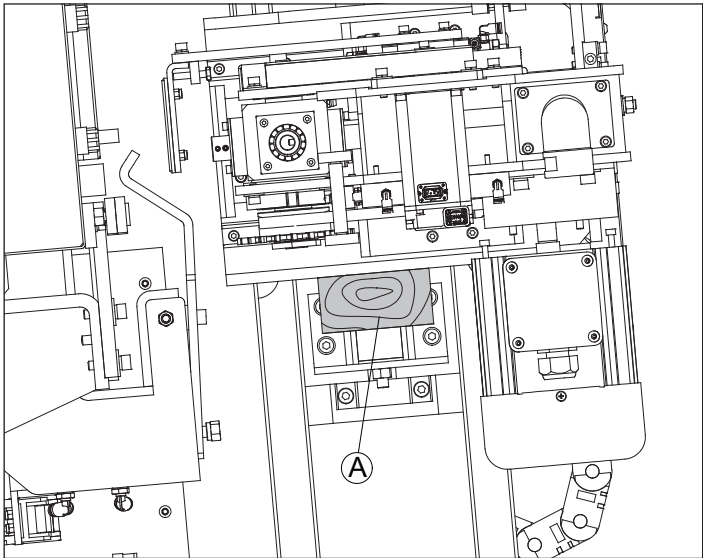

Fig. 4.9
Move Y-axis up and remove the wooden pads (A) in Fig.4.9 placed at the lower limit position of the Y-axis